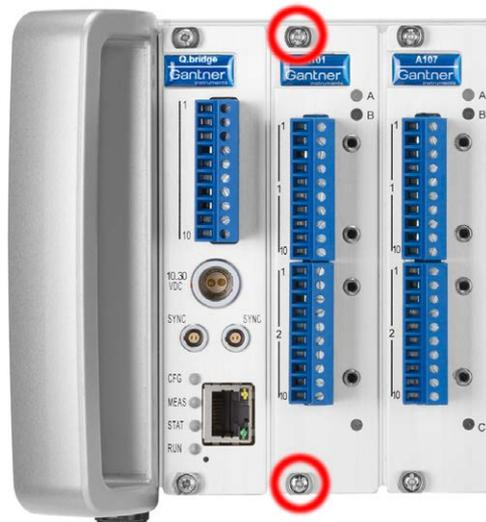

Abb. 4-72 To remove a module release the screws in the red circles.
2. Release the screws of the module at the front of the Q.brixx system (refer to red marking in Fig. 4-72) with a cross-tip screwdriver.